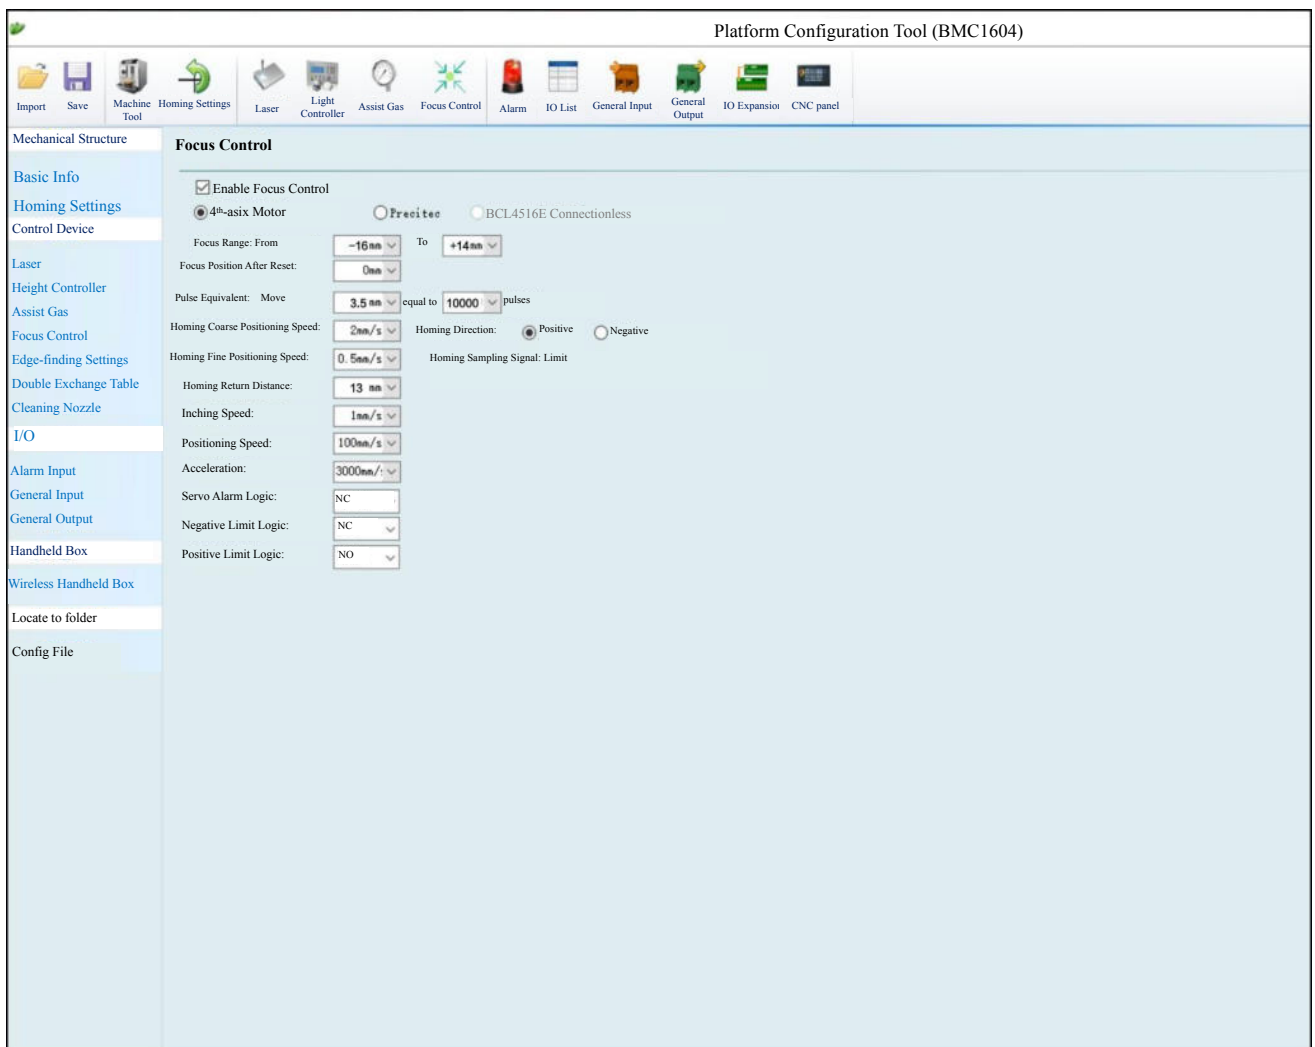

Figure 3.4
① Open the software configuration platform, set the focus retraction distance to 30mm (can be slightly adjusted according to the actual conditions) to ensure that the focus is at the zero point (taking Cypcut as an example), as shown in Figure 3.4.